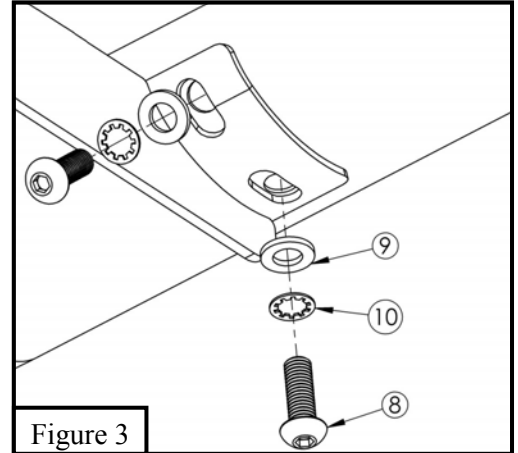

Figure 3
6. Locate a step bar and loosely secure onto the previously installed brackets using the provided M10 hardware. See **Figure 3**.